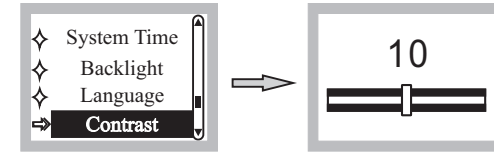

Fig. 22
- (6) Changing LCD Contrast, Fig. 22.